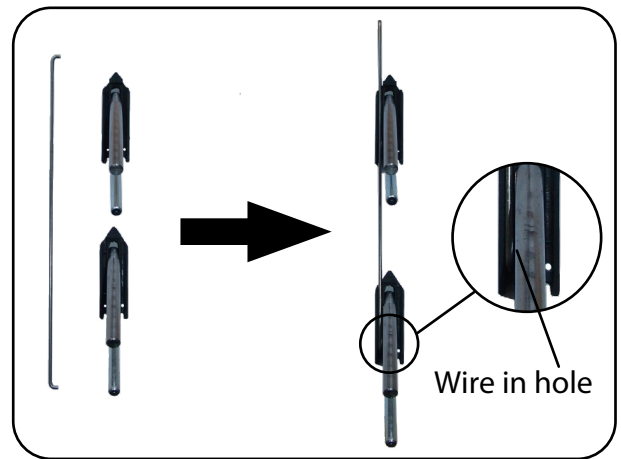

Fig. 6.4.02 – Side bar slider assembly
3. Assemble the side bar sliders. To do so, take two side bar sliders and one side bar slider wire (Fig. 6.4.02).
4. Position the end of the wire in the hole on the bottom side bar slider so that the side bar slider wire runs along the groove. Take the second side bar slider and position the wire in its groove (Fig. 6.4.02).